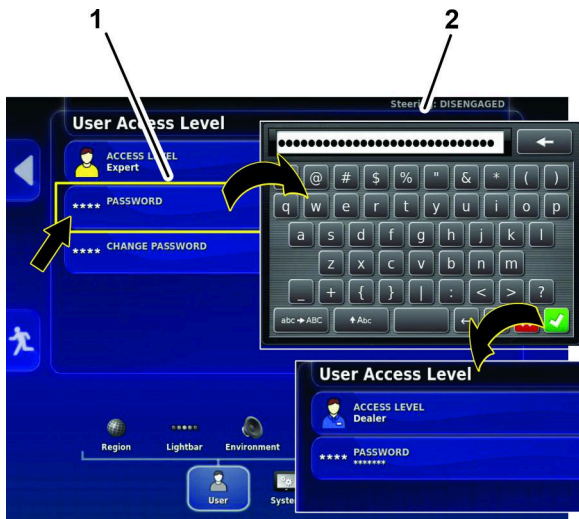

Figure 159
4. Press the PASSWORD icon, type the dealer password with the pop-up keyboard window, and press the confirm icon (Figure 159).